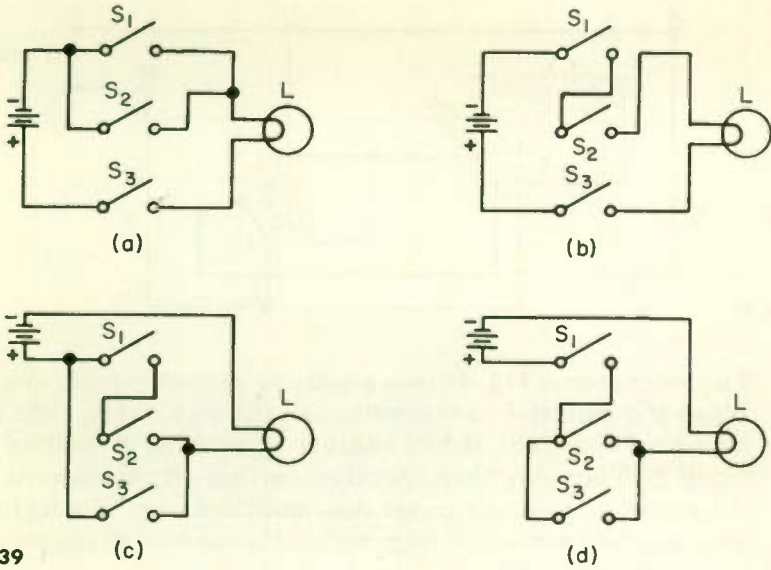

Fig. 39
6. In which of the diagrams of Fig. 39 will the lamp light in accordance with the Boolean statement $(S_1 + S_2) \times S_3 = L$?